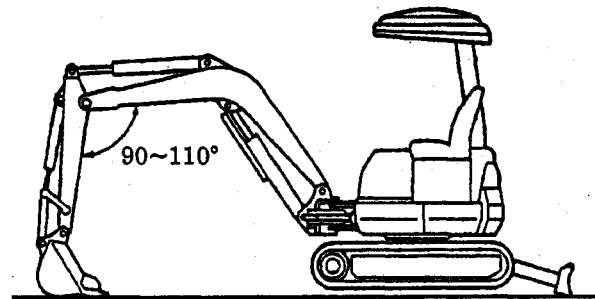

Fig. 2 Supporting machine
- 2) Lift the one side of machine with front attachment, as shown in Fig. 2, and place square timber or equivalent under lower frame to support machine.